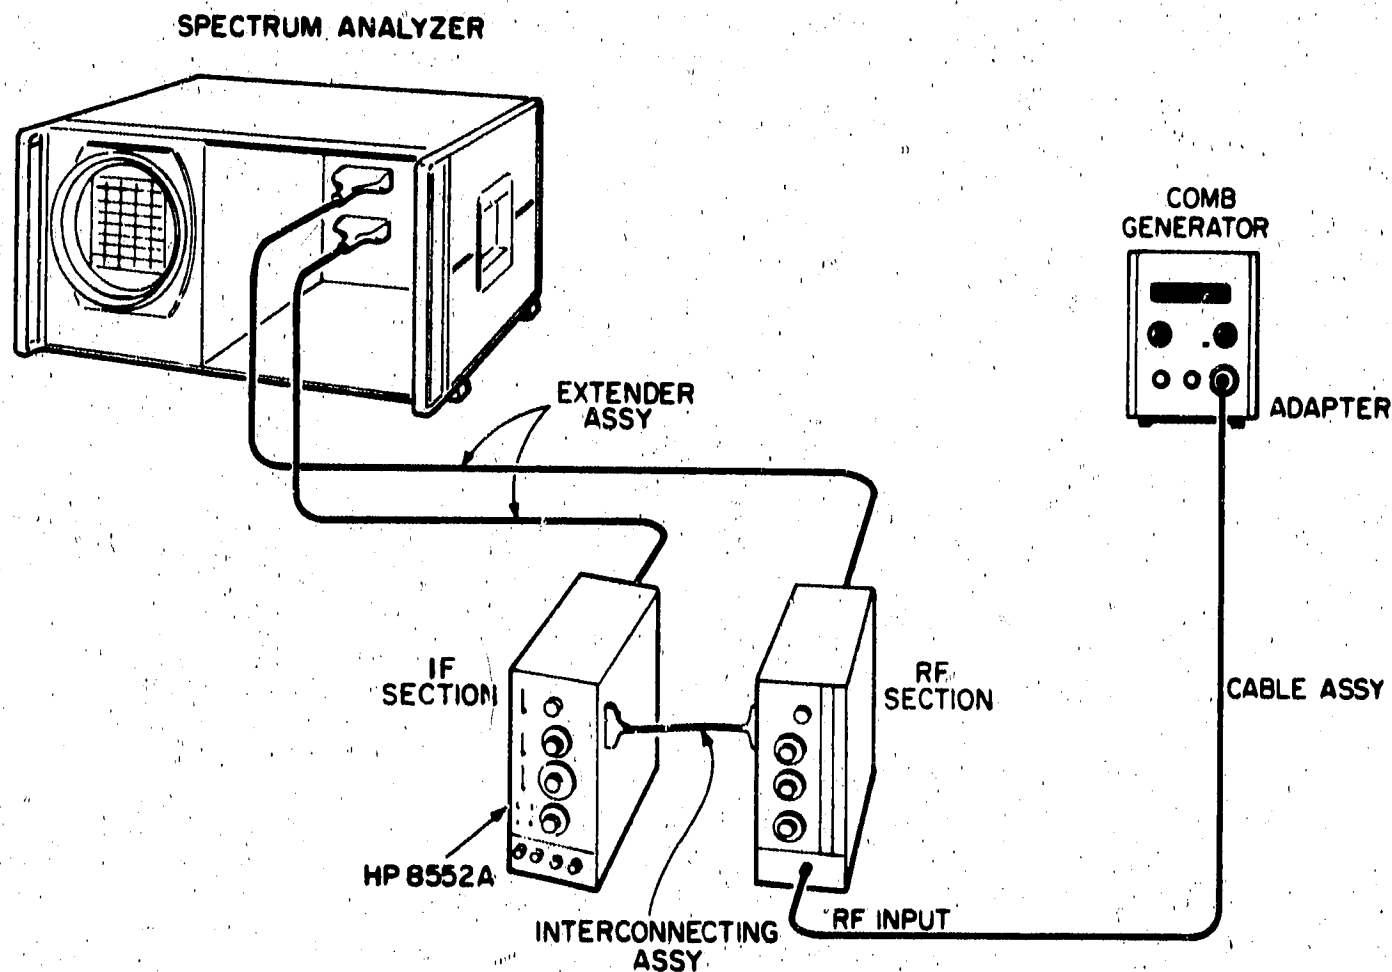

Figure 5-10. Crystal Filter Adjustment Test Setup.
1. Connect the test setup in Figure 5-10 and make the following control settings: